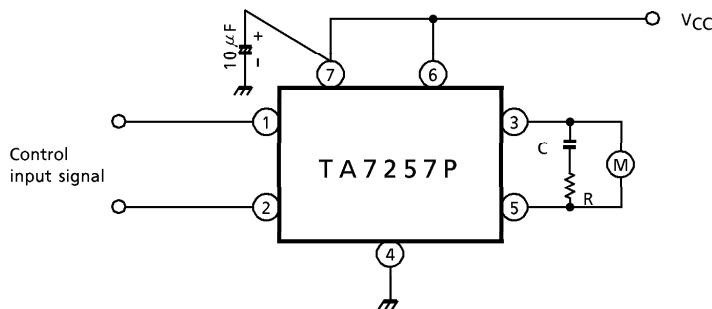

Fig.2
- (Note 1) Fig.2 shows the basic application circuit. Optimum values of the C, R depend on the inherent constant of a motor and parasitic C, R values around the circuit. Normally, recommended to use 0.1  $\mu F$  and 33  $\Omega$ .